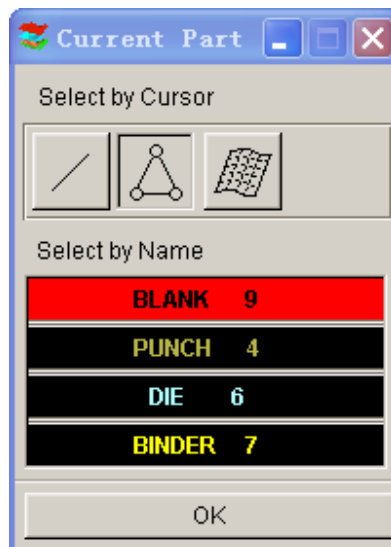

Figure 4.5.1 Current Part
- To select a target part, select TO PART. See Figure 4.5.1.
This function allows the user to change the current part. All lines, surfaces, and elements that the user creates are automatically included in the current part. The name of the current part is displayed in its part color in the lower right corner of the screen in the DISPLAY OPTIONS window, and A SELECT PART dialog window is displayed. The user can also click on this field to change the current part. See Figure 4.5.1.
- In Figure 4.5.1, the user can select a part by picking a location, line, element, or surface that is included in the part. The user can also select a part by name.